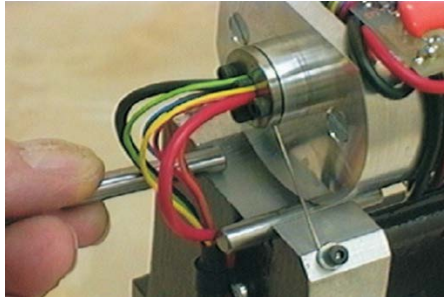

Figure 59: Rollers with Jig Kit
5. Release the screws holding the upper wire springs. Slide the two rollers supplied in the Jig Kit in the corners of the notch in the upper part of the yoke. Refer to Figure 59.